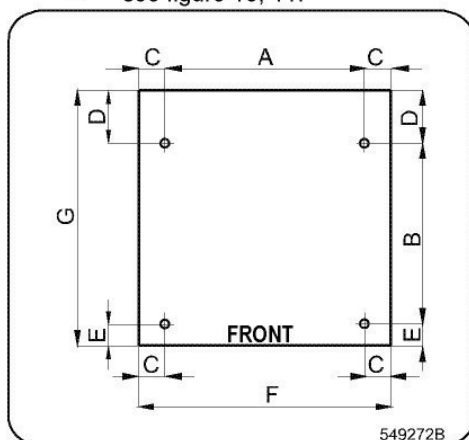

Figure 10 – Rigid-mount machines
○ see figure 10, 11.
- The existing concrete floor must be at least 120mm / 4.72" thick. Dimensions for anchoring – see figures 10, 11 and table 22.